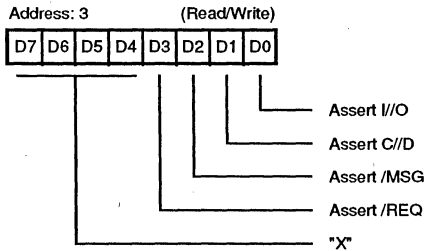

Figure 9. Target Command Register
**Target Command Register.** *Address 3(Read/Write).* When connected as a target device, the Target Command Register (Figure 9) allows the CPU to control the SCSI Bus Information Transfer phase and/or to assert /REQ by writing this register. The Target Mode bit (Mode Register, bit 6) must be True (1) for bus assertion to occur. The SCSI Bus phases are described in Table 2.